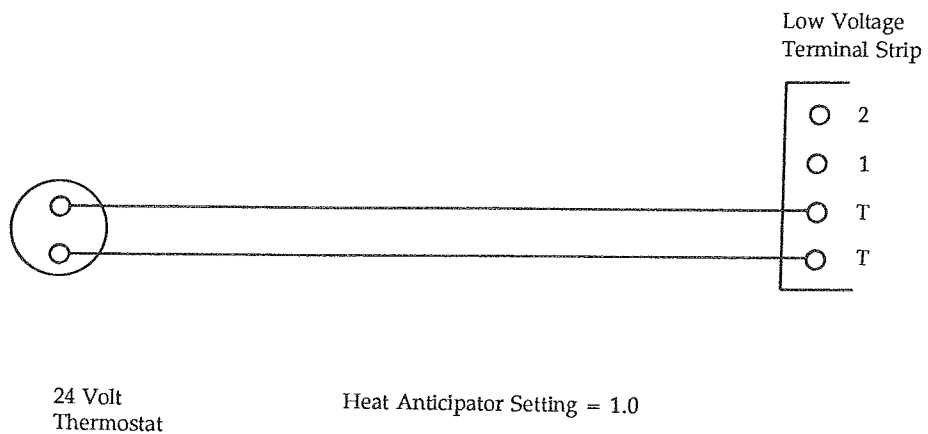

FIGURE 14C: 24 VOLT WIRING - PRIORITY ZONING OF AN INDIRECT WATER HEATER WITH A 3 WAY ZONE VALVE
- 5) Zone wiring- Fig. 14c, d, and e show common zone wiring for 3 way domestic water zone valves, 2 way zone valves, and circulator zoning respectively.